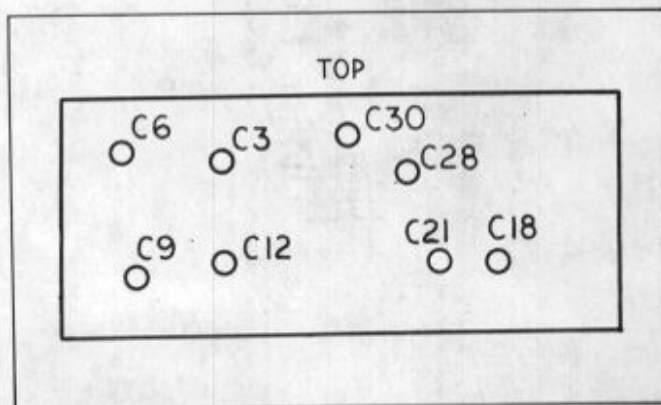

Figure 2-21. Trimmer Access Hole Locations, A8
2.5.32 A8 Assembly Adjustment (See Figures 2-21 and 2-22)